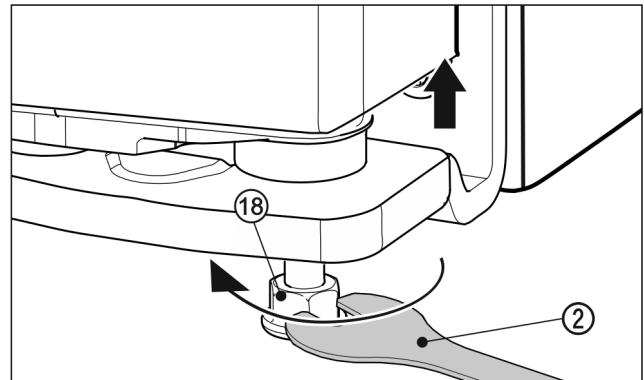

Fig. 23
- ▶ To lift the door, unscrew the adjusting foot Fig. 23 (18) clockwise using the supplied open-ended spanner Fig. 23 (2) until the foot makes contact with the floor. Then continue turning until the door is adjusted to the right height. When delivered, the bearing pin is completely screwed in.